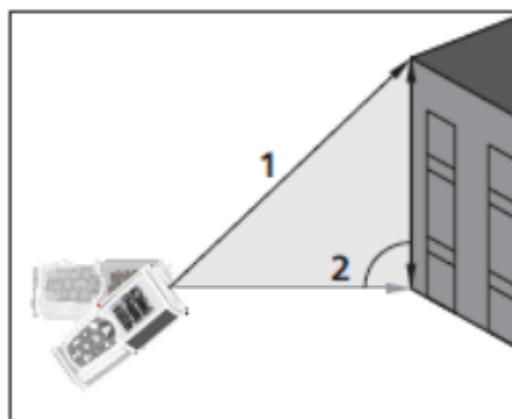

Fig. 7: Indirect 2-point measurement
- Position the instrument in the highest point (1) of measurement (see Fig. 7) and press the  key to measure. The result appears on the first partial display. The symbol "" appears on the display with side "2" flashing
horizontally as possible (2) (see Fig. 7) and press the  key to measure. The result appears on the second partial display
5. The final value of the result (obtained as  $\sqrt{(1)^2 - (2)^2}$ ) is shown in the resulting display